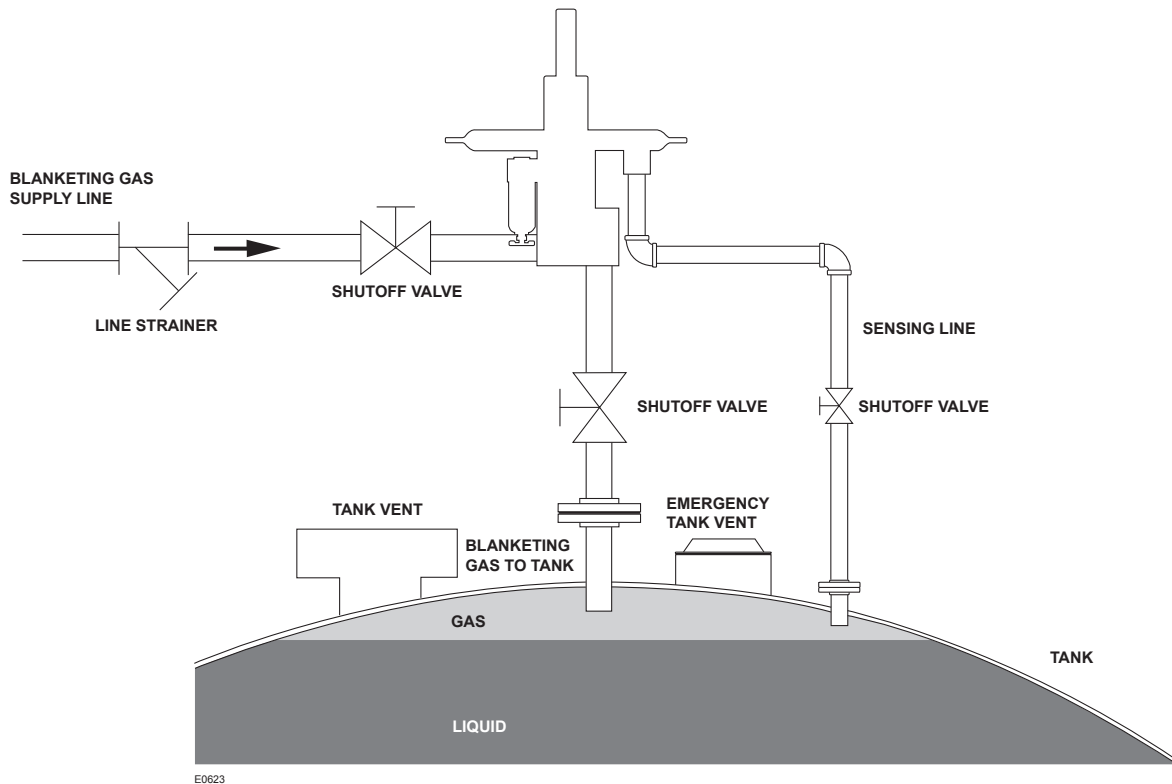

Figure 4. ACE95 Series Tank Blanketing Valve Installation
1. Open shutoff valves between the blanketing valve and the tank (both sensing and outlet). See Figure 4.